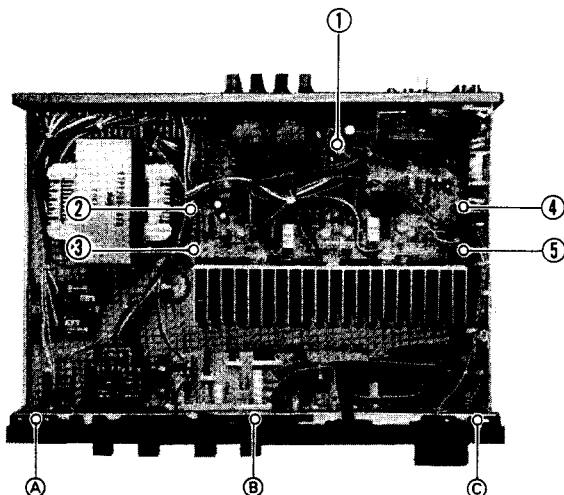

Fig. 2
2. Remove the screw ① shown in Fig. 2 and screws ② – ⑤ retaining the heat sink bracket and chassis base.
2. Remove the plastic rivets A – C shown in Fig. 2.